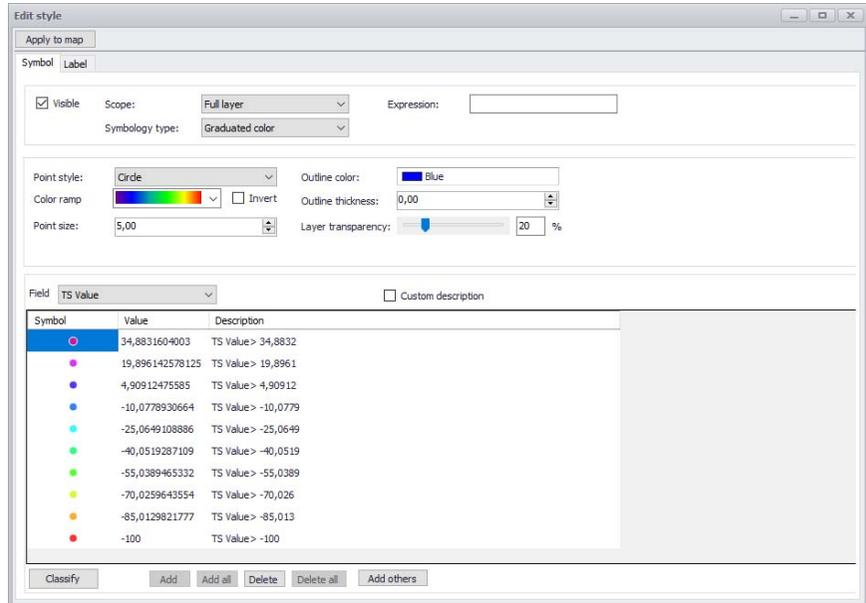

Figure 19.19 The Edit Style dialog Symbol tab
- Click on the 'Edit style' option to access the Edit Style dialog. There are two tab pages on the dialog: Symbol and Label. Access the relevant tab page to customize labelling or symbology (Figure 19.19 and Figure 19.22).